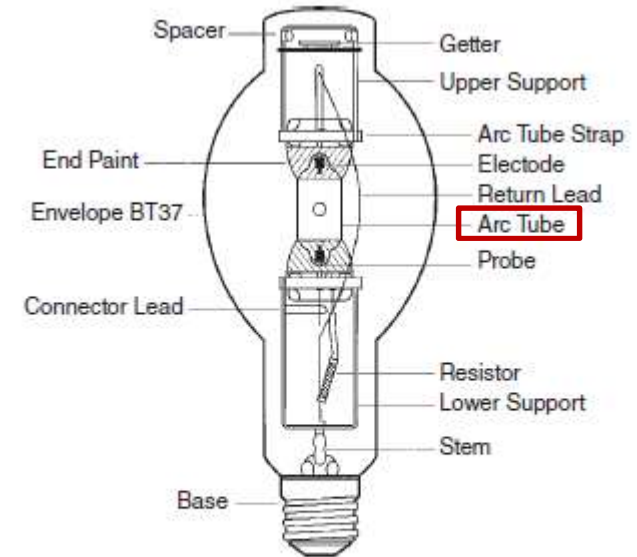

Fig. 15.17 Construction details of a 400-W standard metal-halide lamp, which can be mounted either horizontally or vertically. (Courtesy of OSRAM Sylvania.)
- Lamp configuration: similar to mercury lamp (Figs.15.17, 15.18)